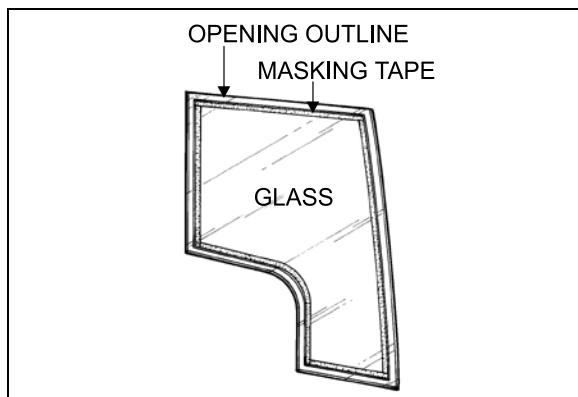

FIGURE 45: ADHESIVE-MOUNTED WINDOW
2. Position the left hand lower corner of the sash over the front cam follower block (Figure 45)